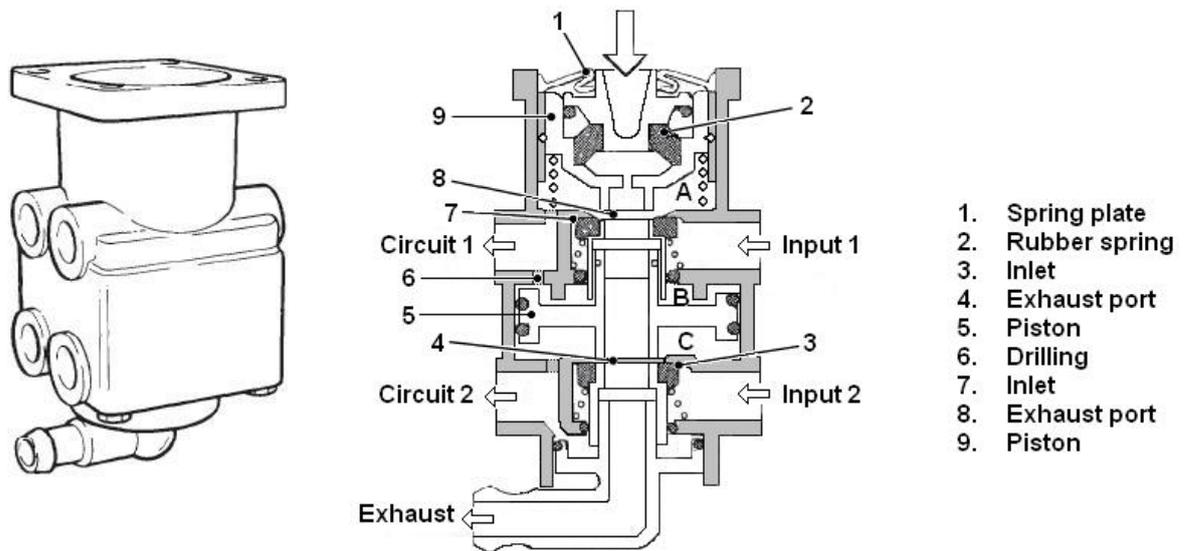

Figure 39 Dual-circuit Service Brake Valve
**87. Dual-circuit, Service Brake Valve.** The service brake valve (Figure 39) gives sensitive control of the truck brakes and a fail safe facility if either brake circuit fails. On applying the service brake, the tappet resting in the spring plate (Item 1) moves the piston (Item 9) downwards. This closes the exhaust port (Item 8) and opens the inlet (Item 7). Air from Input 1 flows through space A to Circuit 1. At the same time, air flows through the drilling (Item 6) into space B and acts upon the top of the piston (Item 5). The piston moves downwards, closing the exhaust port (Item 4) and opening the inlet (Item 3). Air from the Input 2 flows through space C to Circuit 2. The pressure building up in space A acts on the underside of the piston (Item 9) and the piston moves upwards against the force of the rubber spring (Item 2) until the forces are equal on both sides of the piston. In this position, the inlet (Item 7) and exhaust (Item 8) are both closed and equilibrium is established. In the same way, the rising pressure in Space C moves the piston (Item 5) upwards until the inlet (Item 3) and exhaust (Item 4) are both closed. With maximum brake application, the piston (Item 9) moves to the bottom of its stroke and the inlet (Item 7) remains open. The pressure acting through the drilling (Item 6) in space B also moves the piston (Item 5) to the bottom of its stroke and holds the inlet (Item 3) open. If Circuit 2 fails, Circuit 1 will still operate as described. If Circuit 1 fails, the application of the service brake is mechanically fed to the piston (Item 5) to move it downwards. The exhaust (Item 4) closes, the inlet (Item 3) opens and Circuit 2 operates as previously described.